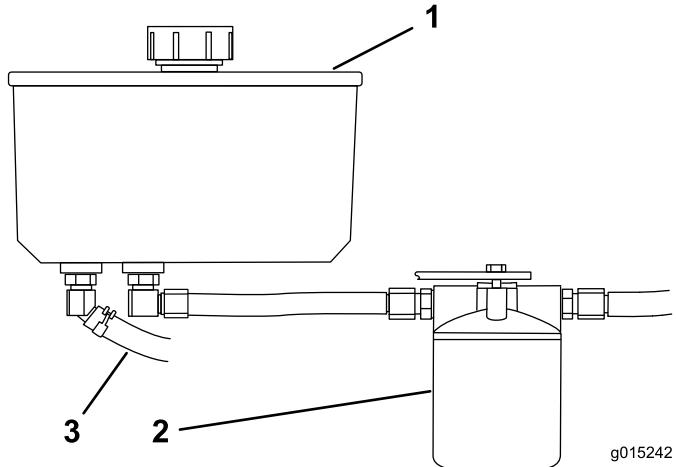

Figure 74
- Locate the front hydraulic hose under the hydraulic tank, and place a drain pan under the tank (Figure 74).